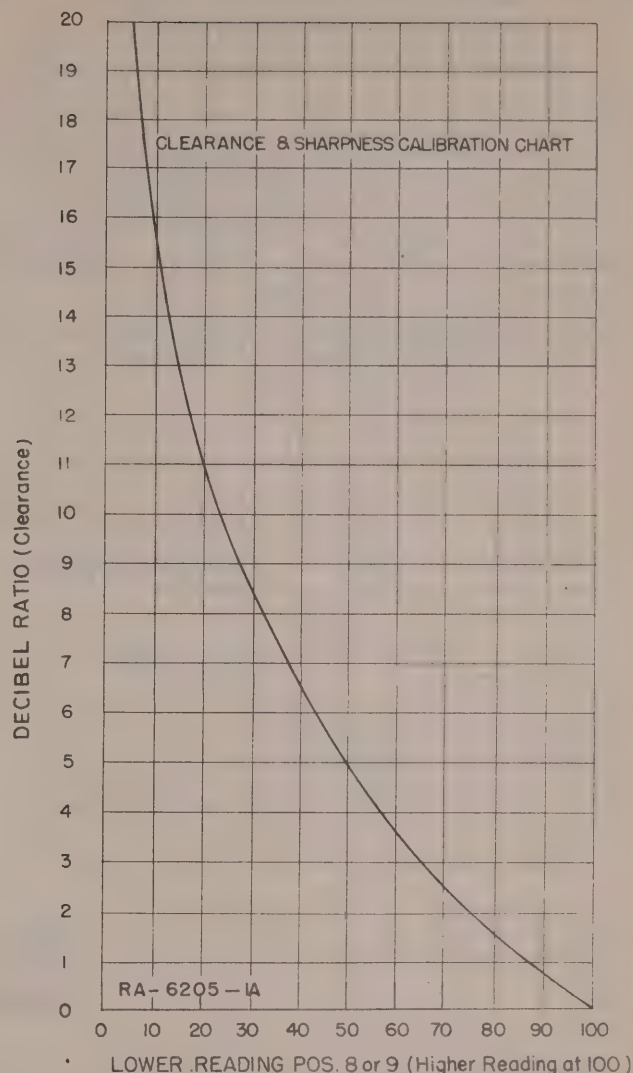

Figure 2-20. Tuning Chart for Course Monitor TS-180/CRN-10
(16) Press the push-button marked "TUNING" and slowly vary the "DETECTOR TUNING" dial for maximum deflection on the "COURSE METER."
(17) Lock the "DETECTOR TUNING" dial after tuning is completed. (See figure 2-20.)
(18) Release the "TUNING" push-button and read the "COURSE" meter. If the "COURSE" meter does not read "0," the course monitor, including the tripod will have to be positioned until the meter reads "0."
(19) After the course monitor is properly positioned, anchor it in place by securing the chain which hangs from the head of the tripod with an anchor, a sandbag, or some other heavy weight.
(20) Replace the front cover of the course monitor.